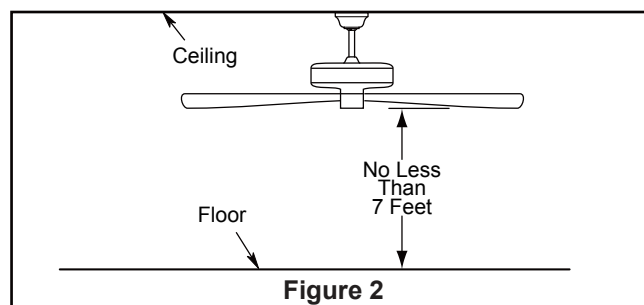
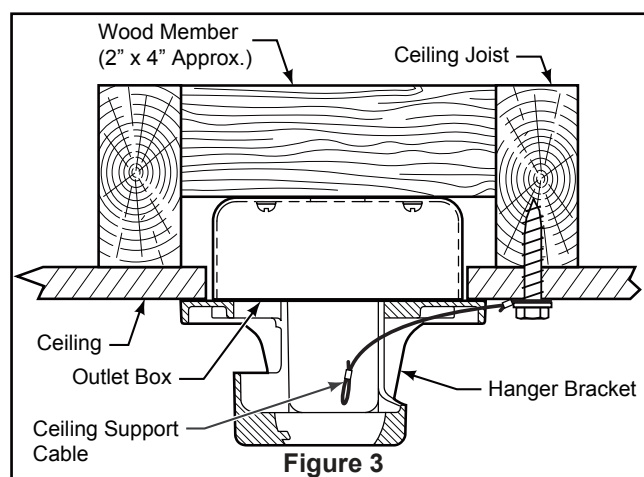

Figure 2
Figure 3
Your new ceiling fan will require a grounded electrical supply line of 120 volts AC, 60 HZ, 15 Amp Circuit. Electrical code requires use of a fan-rated outlet box to support the extra weight and motion associated with a ceiling fan. A fan-rated box will be labeled as such and typically supports up to a 70lb ceiling fan. Fan-Rated Outlet Boxes vary in ratings and design. Ensure the ratings of your ceiling fan outlet box meet the requirements for the ceiling fan being installed. Figure 1, Figure 2 and Figure 3 depicts different structural configurations that may be used for mounting the outlet box.
Deep box (Figure 2)
Deep box with brace (Figure 3)
2. Remove the hairpin clip and clevis pin from the bottom of downrod. Retain the pin and clip for reinstallation in Step 4. (Figure 2)
3. Loosen the two set screws and locking nuts in the downrod support of the motor assembly. Route the black, white, blue wires and safety cable through the downrod. (Figure 3)
The fan must be hung with at least 7' of clearance from floor to blades. (Figure 2)
1. Securely attach the hanger bracket to the outlet box using the outlet box screws and washers supplied with the fan. (Figure 3)
2. Drill a 1/4" pilot hole into the building structure to prevent splitting or cracking with installation of the lag bolt. Using the 3/8" x 2" lag bolt and flat washer, attach safety cable to ceiling joist or wood structural member. The lag bolt will pass through the flat washer, safety cable loop, and into the building structure. (Figure 3)
- NOTE:** Ceiling support cable cannot be secured to outlet box only, it must be directly secured to ceiling joist or structural member using the 3/8" x 2" lag bolt and flat washer. (Figure 3)
2. Securely attach and tighten the canopy screw cover over the shoulder screws in the hanger bracket utilizing the key slot twist-lock feature. (Figure 2)
2. Disassemble switch cup support cover from switch cup cover assembly removing three screws. (Figure 2)
- ☐ **3.** Remove one of the three screws in the support bracket. Attach the switch cup support cover to the support flange by rotating plate and properly positioning screws in key slots. Install third screw in remaining hole. Fully tighten all three screws. (Figure 3)